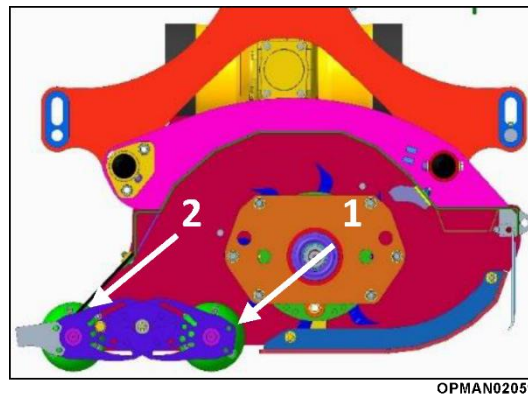

Figure 12
The machine has a ability to work in two ways: by discharging material in front or behind the rear roller. With reference to Figure 12, placing the rear roller in its “forward/front” position (1) will discharge material behind the rear roller. Benefits are brought by the rear roller being self cleaning in this position. Placing the rear roller in its “rear/behind” position (2) will discharge material in front of the rear roller. In this case we recommend to install a scraper and a deflecting plate as optional equipment (2).